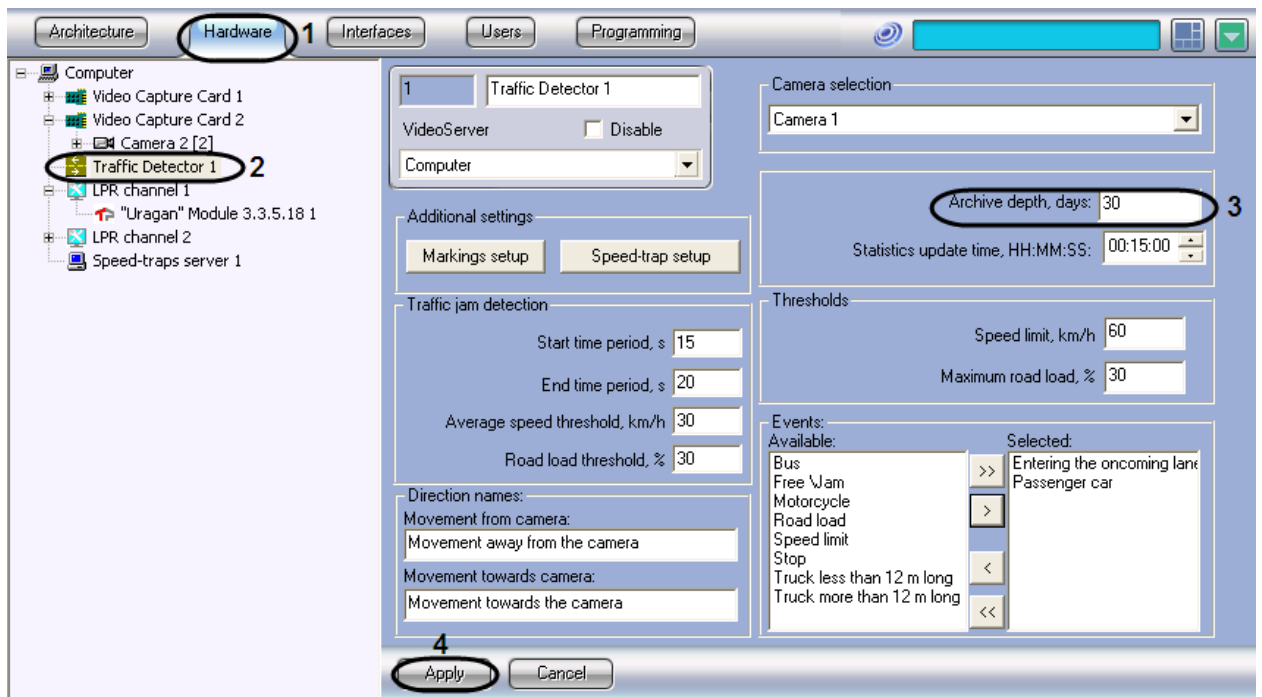

Fig. 7.4—2 Setting up the archive depth
2. In the object tree on the left side of the Hardware tab, select the Traffic Detector object representing the Traffic Detector module to be set up. The settings panel of the selected object will open on the right side of the window (see Fig. 7.4—2).